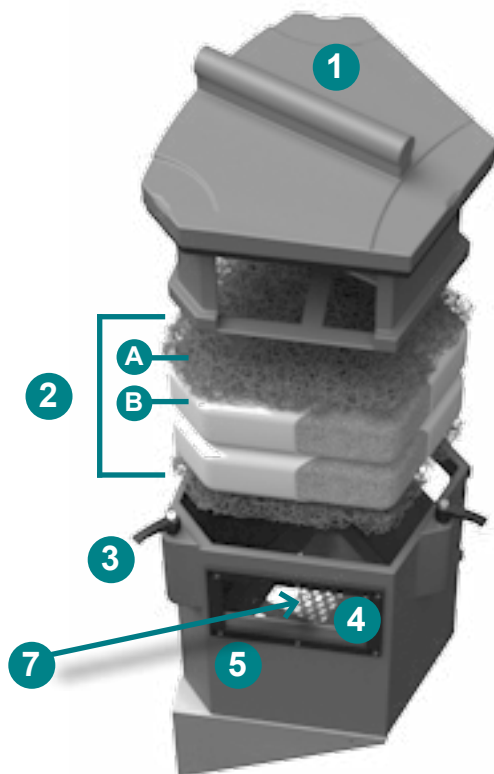

Fig.9 The Filter Module houses the Media Restraint and the Media Pack.
3. Open the Filter Module by turning the three cam latches on the front and sides of the module. Remove the lid **1** to gain access to the Media Pack (Fig.9).
- Two (2) Media Bags **B** equipped with nylon handles.
- Next, insert the first of two (2) replacement Media Bags. Smooth the bag out with your hands to make sure that the bag extends snugly to the walls and corners of the Filter Module.